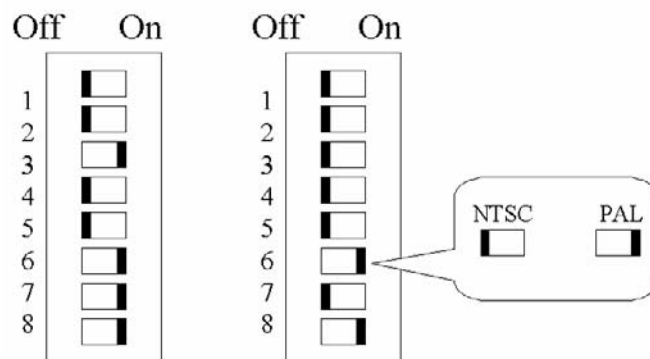

Figure 3-22 Video Converter Dip Switch Positions
- 5.) Follow the manufacturer's guidelines to set the switches to the correct positions, as shown in Figure 3-22 below.